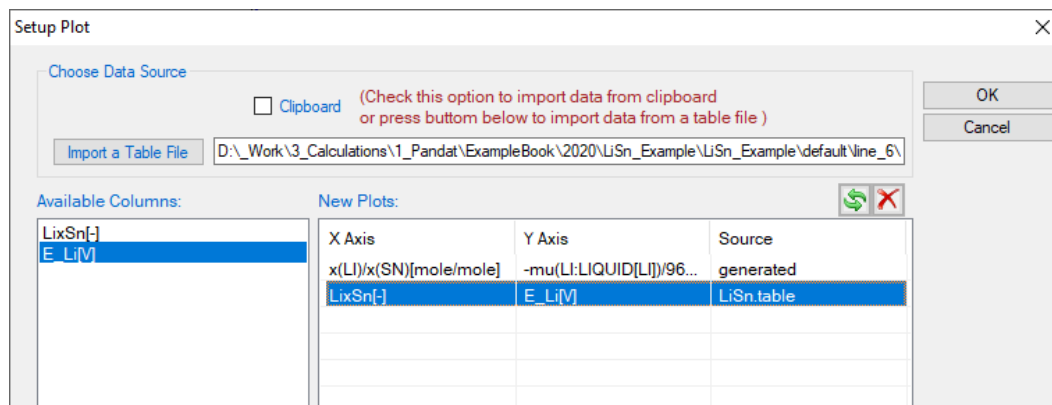

Figure 1.26.8 Setup Plot, add the experimental data into generated figure.
- Compare calculated results with experimental data. From the menu, click Graph -> Edit Plots, or click the button  from the toolbar to open the setup Plot interface as shown in Figure 1.26.8. Select the imported LiSn table, choose LixSn as X axis, and E_Li(V) as Y axis. Then click OK.